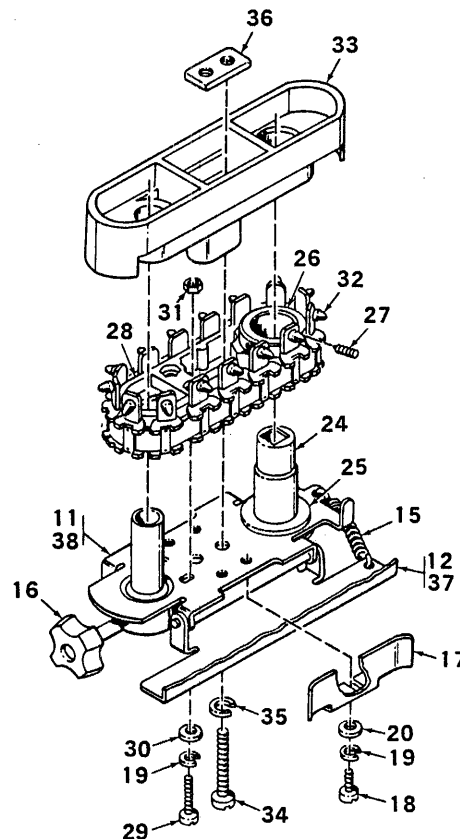

Figure 5-12. REMOVAL OF BELT (32) IDLER SLIDE (28), AND DRIVE PULLEY (26)
2. Orient pin feed unit so that spring (15) is at bottom of unit while being held in hand. Paper holder gate (13, 37) is closed.
3. Turn belt (32) and locate two set-screws (27) between pins on drive pulley (26) for drive sleeve (24) at bottom of unit.
4. Loosen two screws, washers (18, 19, 20) holding the pin attachment guide (17) on the pin feed holder (11, 38).
- a. Open gate (12, 37) and slide pin attachment guide (17) outward so that when belt is compressed each side, the clearance between belt and guide is approximately ¼-in. (6.3 mm). (Not critical).
5. Using a medium sized slotted head screwdriver, remove two screws, lockwashers (34, 35) and plate nut (36) holding pin feed holder (11, 38) and belt guide (33) together.
6. Separate and remove belt guide (33) from remaining portion of pin feed unit. Keep sleeve (24) in position.
7. Remove two screws, lockwashers (29, 19, 30) and recessed nut (31) holding the idler slide (28) to the pin feed holder unit (11, 38). Keep sleeve (24) in position.
8. Lay unit on bench with gate (12, 37) open. The set plate (21) (Fig. 8-11) is facing downward, the sleeve (24) is projecting upward, (See Fig. 5-12). (Set plate is not shown).
9. Remove the following three assembled parts together as one unit from sleeve (24): (1) belt (32), (2) idler slide (28) and (3) drive pulley (26). Note, that the drive pulley slides up over the sleeve (24) with the other two parts.
10. Remove spacer (25) from sleeve (24).
11. Lift up remaining pin feed holder unit (11), (38) from bench and remove sleeve (24) from pin feed holder (11, 38).